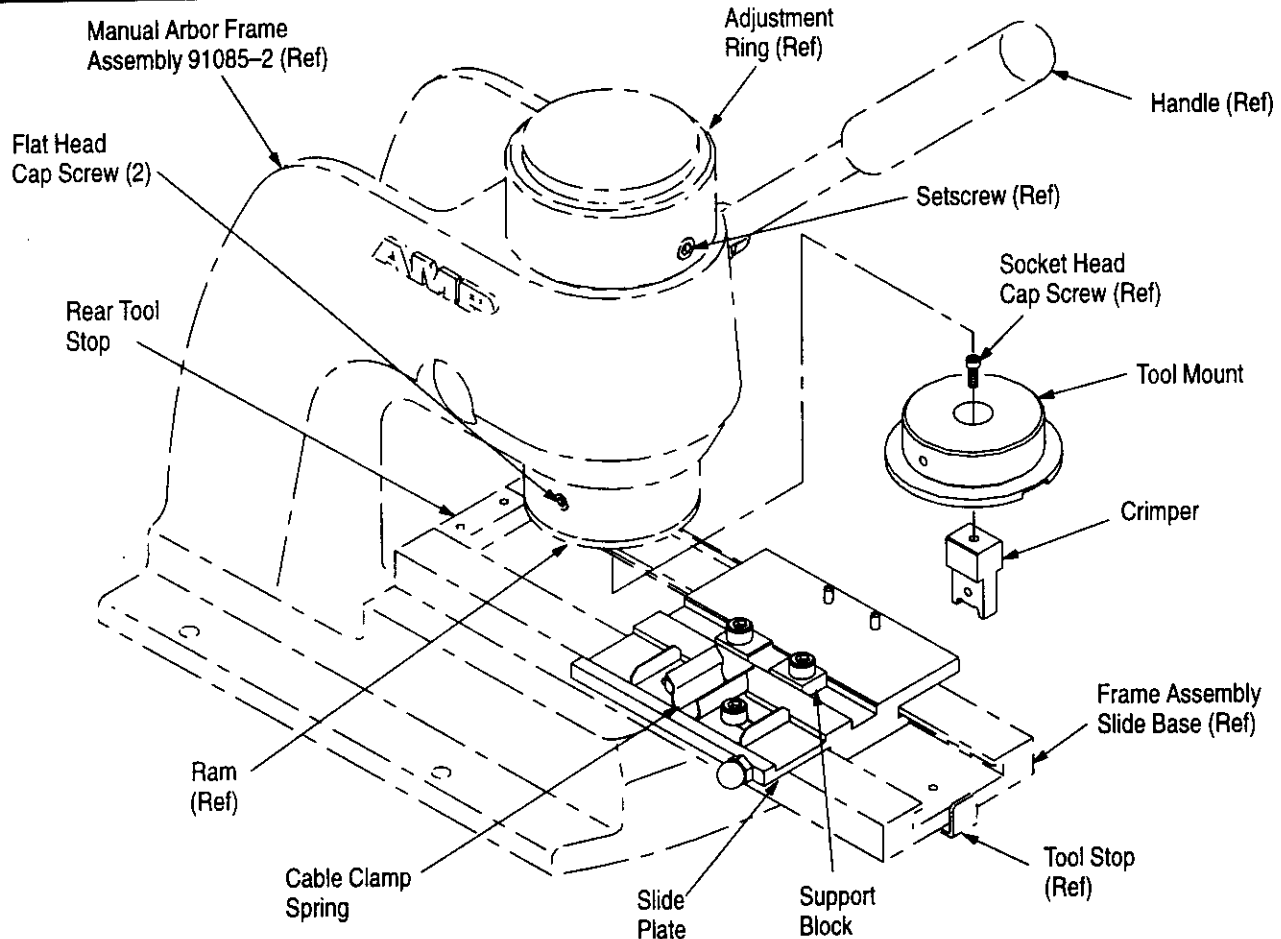

Figure 1
The 0.8 mm CHAMP Crimper Assembly is designed for use in AMP Manual Arbor Frame Assembly 91085-2 (shown in Figure 1) and is used to crimp metal backshell assemblies onto 0.8 mm CHAMP connectors. This instruction sheet provides procedures for crimper assembly installation, adjustments, crimping, and maintenance and inspection. Refer to instruction sheet 408-7777 for details concerning the operation and maintenance of the arbor frame assembly. For details concerning product specifications, contact AMP Product Engineering.
The crimper assembly (shown in Figure 1) consists of an upper and lower tooling assembly. The upper tooling assembly features a tool mount and a crimper. The crimper is secured to the tool mount, which is mounted to the ram of the arbor frame assembly with the socket head cap screws supplied with the crimper assembly.
To install the crimper assembly, refer to Figure 1 and proceed as follows:
2. Slide lower tooling assembly into the tracks of the frame assembly slide base. The cable clamp spring must be oriented to the left side of the slide base, as shown in Figure 1.
3. Position the crimper in the tool mount with the longer offset to the right (as shown in Figure 1). Secure crimper to tool mount with the socket head cap screw.